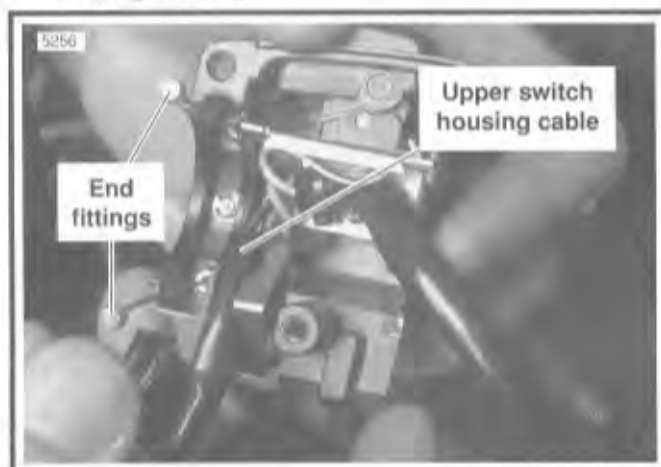

Figure 7-71. Route Cable to Upper Switch Housing
3. See Figure 7-71. Route the cable to the upper switch housing as shown.